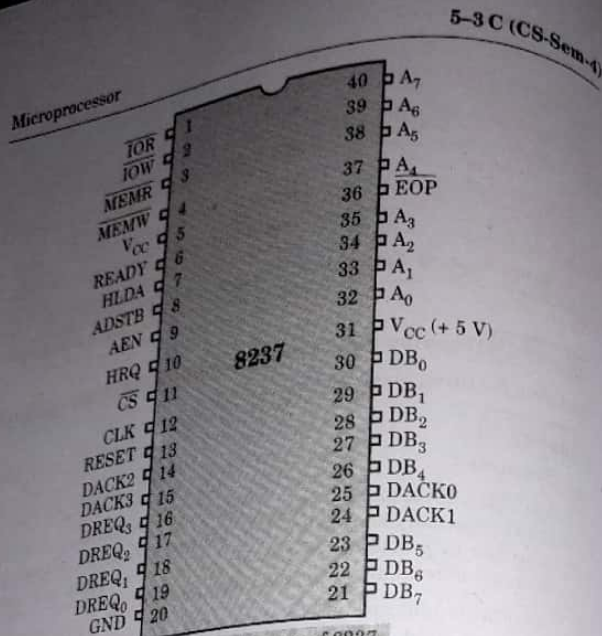

Fig. 5.1.1. Pin diagram of 8237.
- B. Pin diagram :** Pin diagram of 8237 DMA controller is shown in Fig. 5.1.1. The functional signal description in brief as follows :